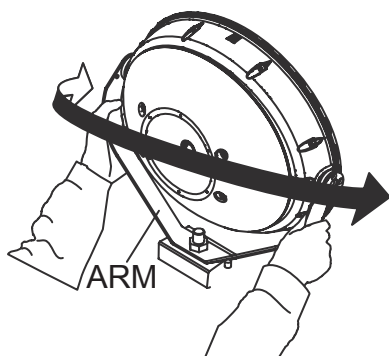

Figure 12. Rotating a Lamp
1. Hold the arms of the individual lamp and rotate it to the desired direction (Figure 12). It is not necessary to loosen the nut to turn the lamps.